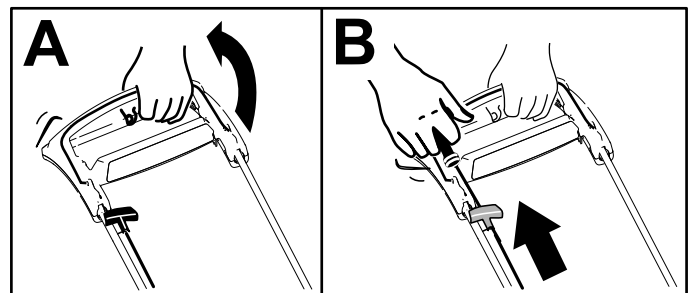

Figure 12
1. Hold the blade-control bar against the handle (A of Figure 12).
2. Pull the recoil-start handle lightly until you feel resistance, then pull it sharply, and allow it to return to the rope guide on the handle slowly (B of Figure 12).